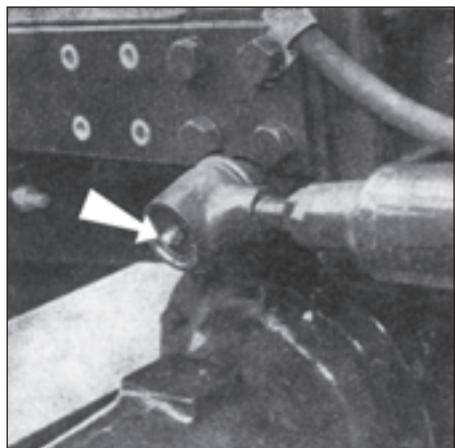

Fig. 171
35. Grease the head of the power-assisted steering, the head of the cylinder clamping (Fig. 171 and diagram of greasing A/17 — two positions) and the head on steering bars (four positions).